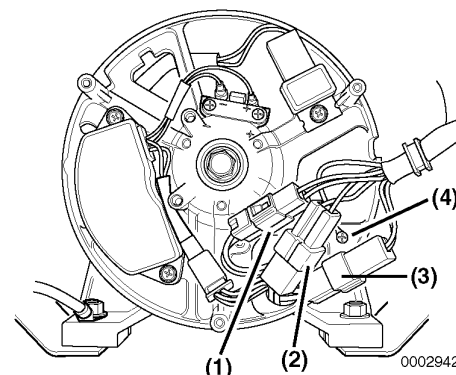

Figure 7-46
Note: YDG3700EV-6EI and YDG5500EV-6EI models use three separate two terminal connectors (**Figure 7-46, (1, 2, 3)**) from the control panel and one ground wire (**Figure 7-46, (4)**) fastened to the rear housing.